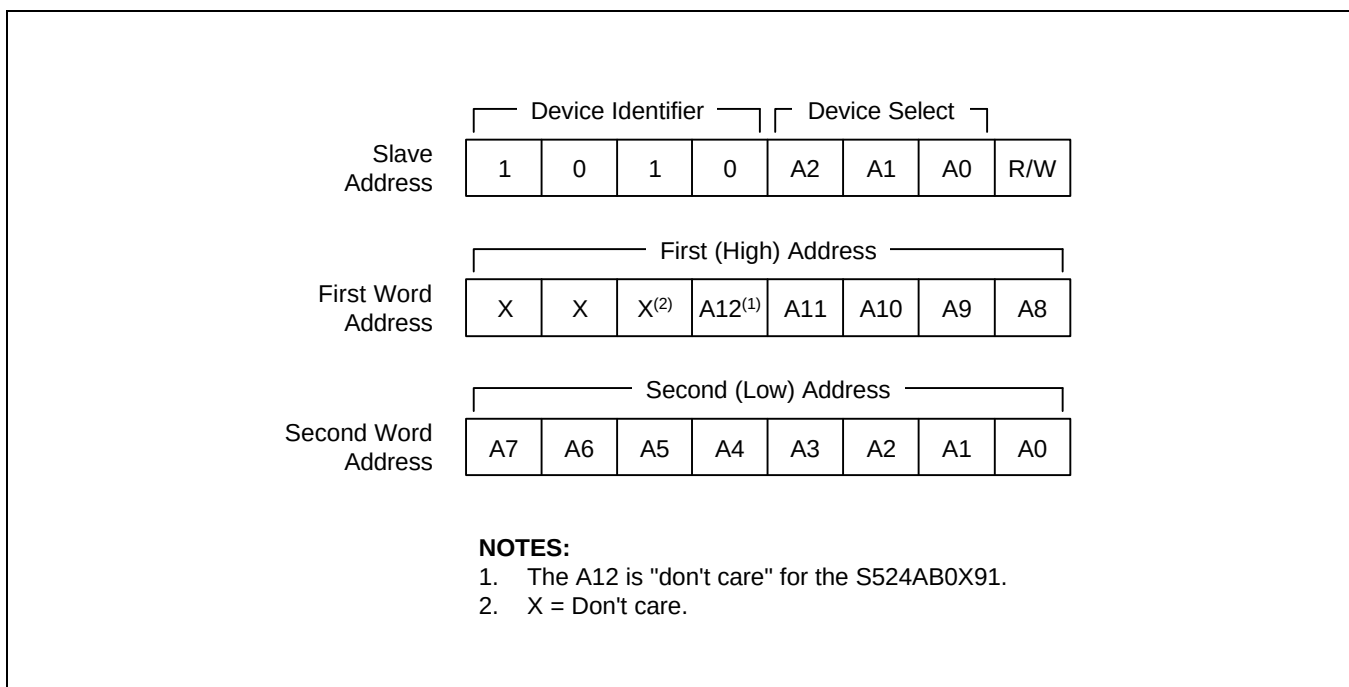

Figure 6-9. Device Address
- **Slave Address:** After the master initiates a start condition, it must output the address of the device to be accessed. The most significant four bits of the slave address are called the "device identifier." The identifier for the S524AB0X91/B0XB1 is "1010B". The next three bits comprise the address of a specific device. The device address is defined by the state of the A0, A1, and A2 pins. Using this addressing scheme, you can cascade up to eight S524AB0X91/B0XB1s on the bus (see Figure 6-9 below).